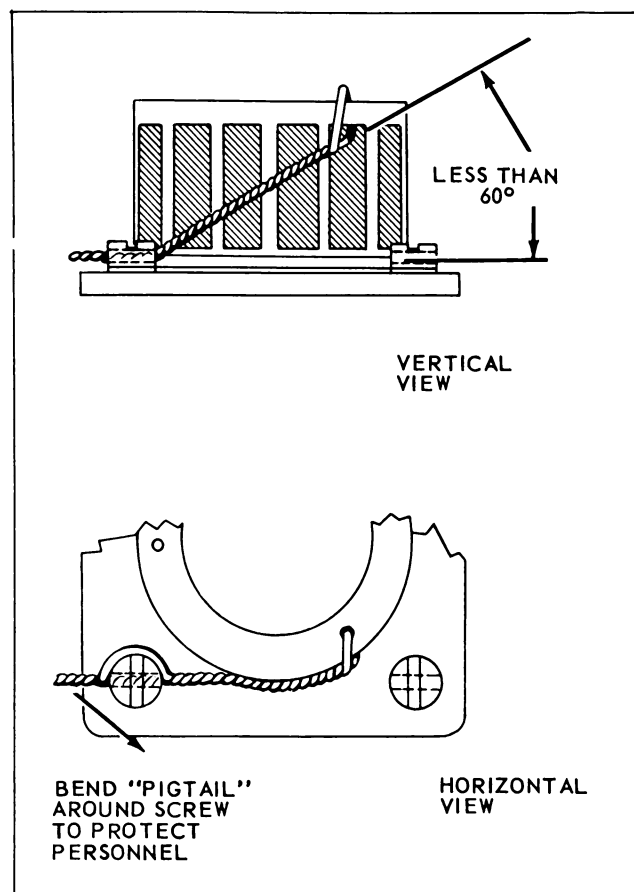

Figure 13-1. Double Twist Safety Wiring
13-10. DOUBLE TWIST SAFETY WIRING. Use the double twist method of safety wiring, as illustrated in Figure 13-1 whenever possible, except as noted in paragraph 13-11.
c. Pull one end of twisted wire through hole in drilled fillister head screw on mounting flange of connector. Use a fillister head screw so located as to allow a 60° or smaller angle of the wire, as shown in Figure 13-1.